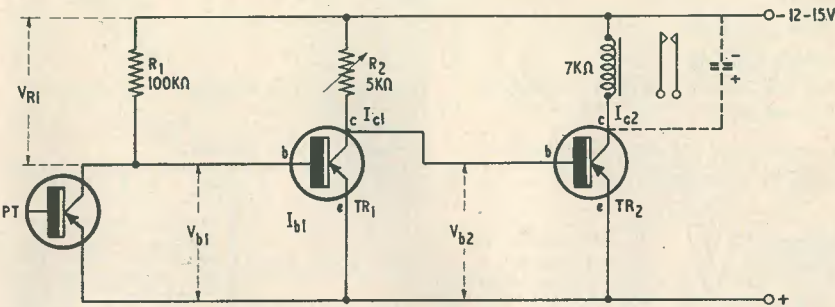

FIG. 2.
For many applications a light source of 50-100 ft/candles is impractical, although magnifying stages can be employed to overcome this difficulty as in Fig. 2. With the use of this circuit one can obtain greatly added sensitivity, so that a relay can be easily
Referring to Fig. 2, the photo-transistor (PT) derives its collector voltage from R_1 , which also has the function of stabilising TR_1 on its working point; although the value is given as 100k Ω , this may vary in individual cases.